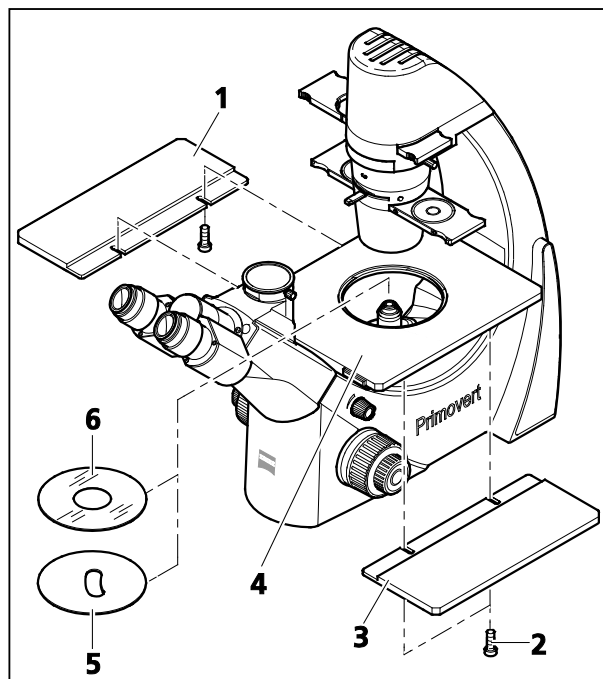

Fig. 7 Inserting the stage inserts and attaching the stage enlargement plates
- Insert either the metal insert (Fig. 7/5) or the glass insert (Fig. 7/6) into the specimen stage.
- If the size of the stage surface does not suffice, stage enlargement plates (Fig. 7/1 and 3) can be attached to both the left and the right side. The stage enlargement plates have to be attached to the stage (Fig. 7/4) from below and fixed using the two knurled screws (Fig. 7/2) included in the delivery.